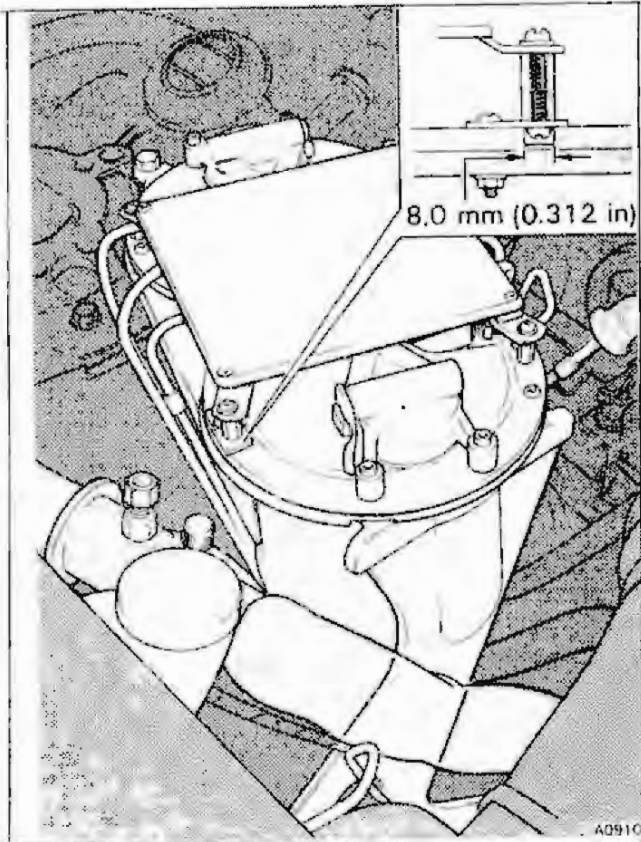

Fig. 9 Warning label
- 20 Drill three 5 mm (0.187 in) diameter holes through the reservoir assembly and fit the stand-off pillars (see fig. 9 items A, B, and C).
- 21 Drill one 8 mm (0.312 in) diameter hole in the reservoir lid (see fig. 9 inset D).